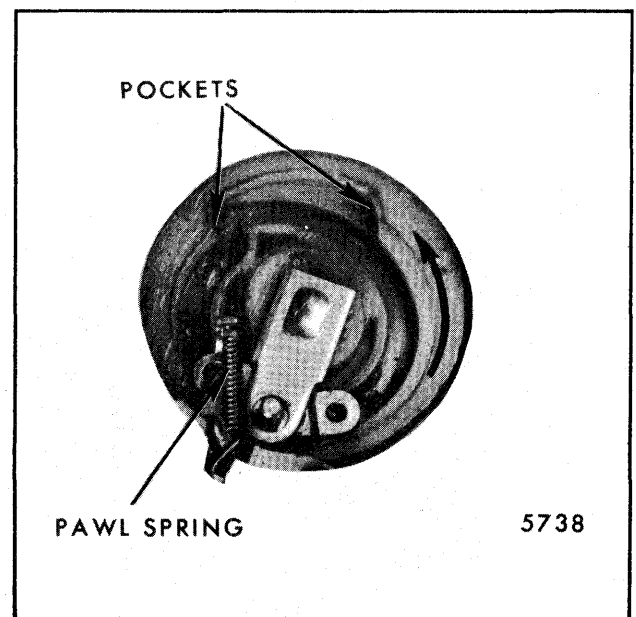

Fig. 2-45-Drive and Lock Pawl Guide Pin Pockets
3. Holding the gear, manually rotate the drive plate in the direction of the arrow until the drive and lock pawl guide pins fit into the gear pockets (Fig. 2-45).
4. Reinstall pawl spring between lock and drive pawls (Fig. 2-45).